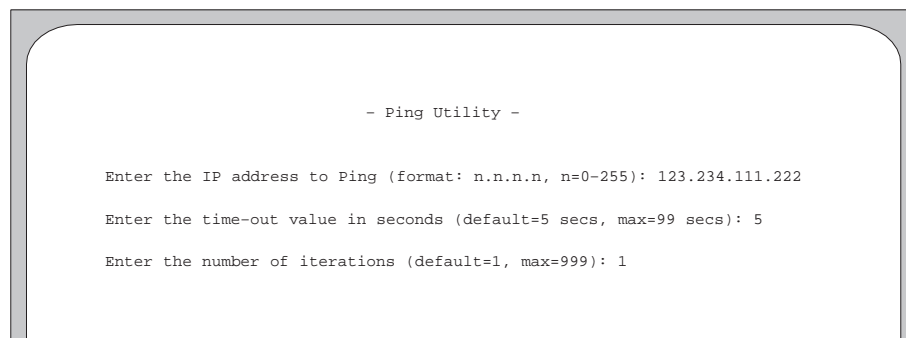

Figure 12-22. Example of Completed Ping Utility Screen.
3. Select the Ping utility. The Ping Utility screen appears, with only the *Enter the IP address to Ping (format: n.n.n.n, n=0-255):* prompt displayed. Figure 12-22 is an example of the Ping Utility screen, with all fields completed.